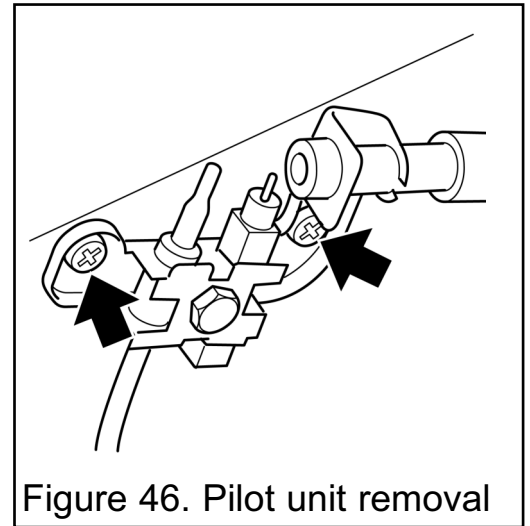

Figure 46. Pilot unit removal
6. Remove the two screws securing the pilot unit (See figure 46).